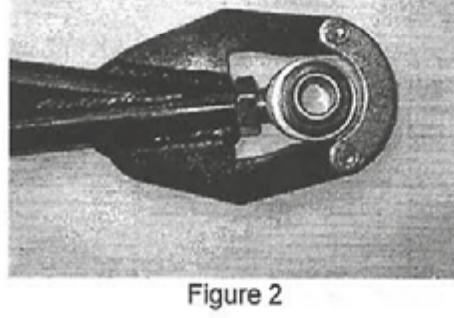

Figure 2
2. Install the retaining straps by using (2) 5/16" bolts and nylock nuts. Bolt two of the retaining straps, one strap on either side, to the ladder bar. Tighten the bolts. See Figure 2.